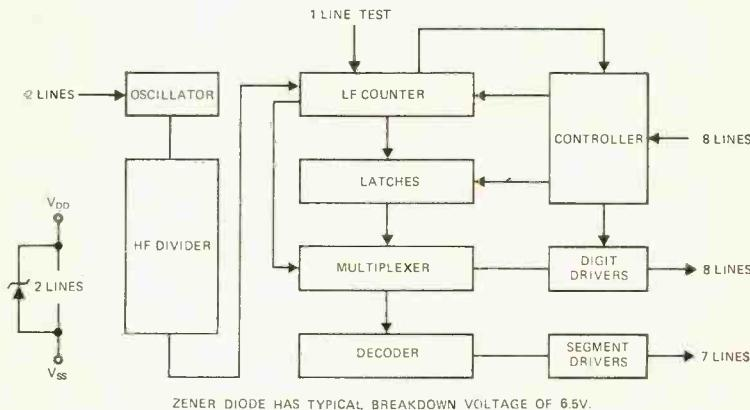

Fig. 2. Internal block diagram of Intersil's ICM7045 MOS precision timer.
**An Electronic Stopwatch.** Suitable for use in a variety of exciting hobbyist projects, including digital timers, electronic stopwatches, and 24-hour clocks, the ICM7045, Fig. 2, is a complementary MOS LSI precision timer. Manufactured by Intersil, Inc. (10900 North Tantau Ave., Cupertino, CA 95014), the device comprises a crystal-controlled oscillator, a high-frequency binary divider, an intermediate-frequency counter, latch circuits, a multiplexer, a decoder, a control circuit, and segment and digit output buffers. It is designed to operate on a nominal source of 3.6 volts (three rechargeable NiCd cells in series) and will